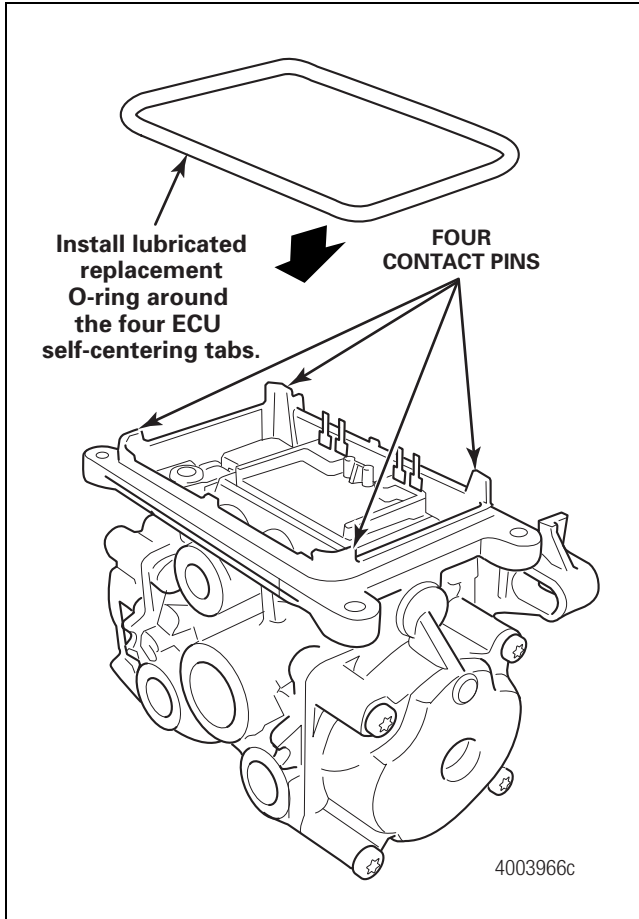

Figure 2
4. Position the lubricated O-ring around the four ECU self-centering tabs located at the top of the dual modulator assembly. Figure 2.
5. Carefully attach the ECU to the dual modulator valve. Figure 2.